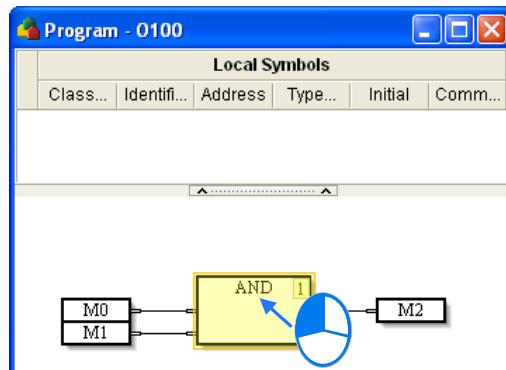

Figure 12-44 Clicking an object
- The users have to click the object in which a comment will be inserted, as shown in figure 12-44.